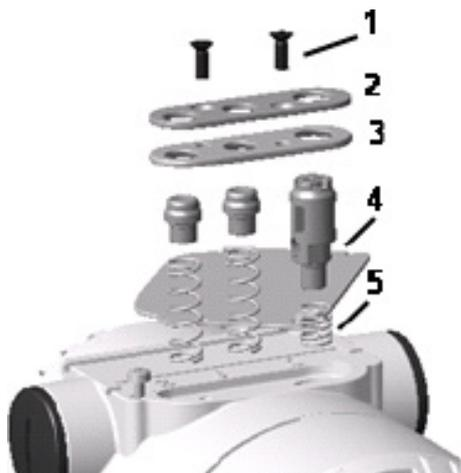

Figure 5.7 – External push button assembly components
- Loosen the push button assembly screws (1) that secure the plastic element. The element is spring-loaded.
- Remove the gaskets (3) that are positioned below the push-button plastic cover (2).
The three push buttons (4) and the relevant springs (5) can now be removed from their seat (see Figure 5.7).